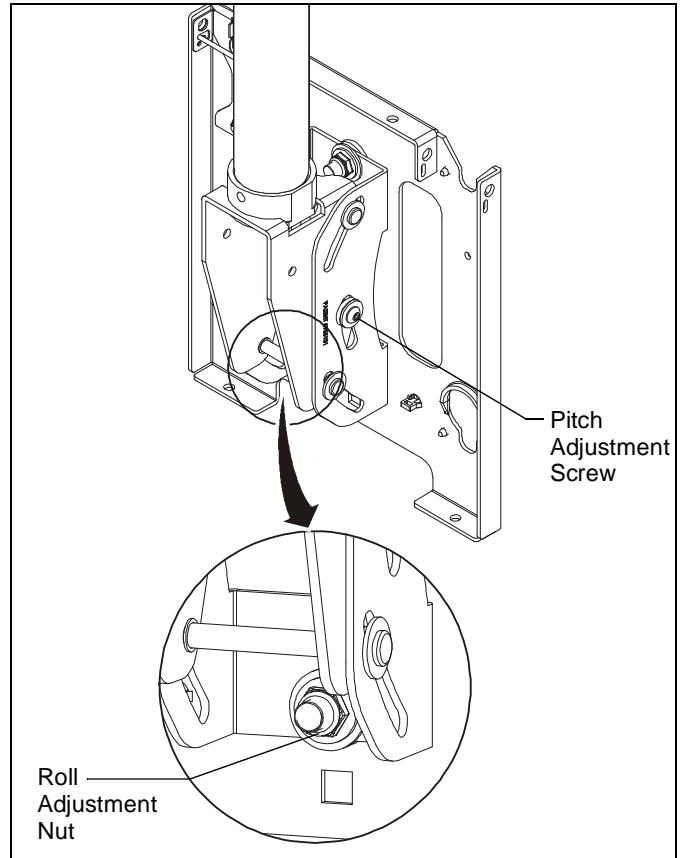

Figure 14
1. Using a 9/16" wrench, loosen the Nylock roll adjustment nut on back of mounting plate. (See Figure 14)
2. Using the 5/32" hex head wrench (E), tighten the pitch adjustment screw to hold mount in position. (See Figure 14)